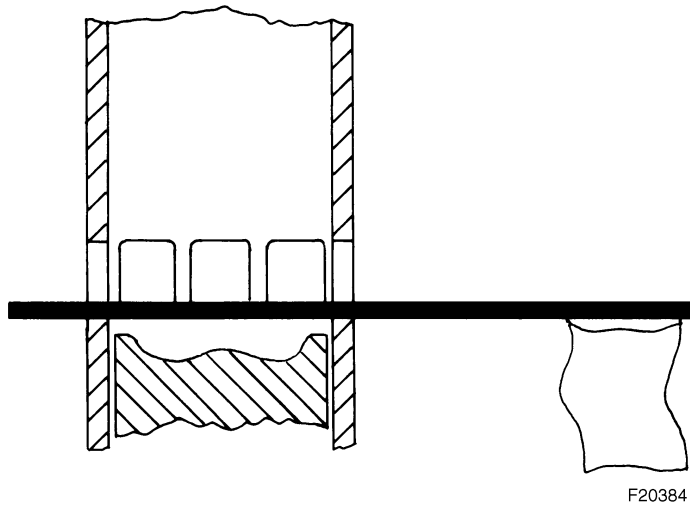

Figure 7-18. “Stop-Bar” Inserted Through Cylinder Ports
3. Insert a brass "stop-bar" (minimum 12.7 [1/2"]) hexagonal or square preferred) of suitable length through the ports of the No. 1 cylinder so that the end of the bar passes through a port on the opposite side of the cylinder, Figure 7-18., on page 7-36.